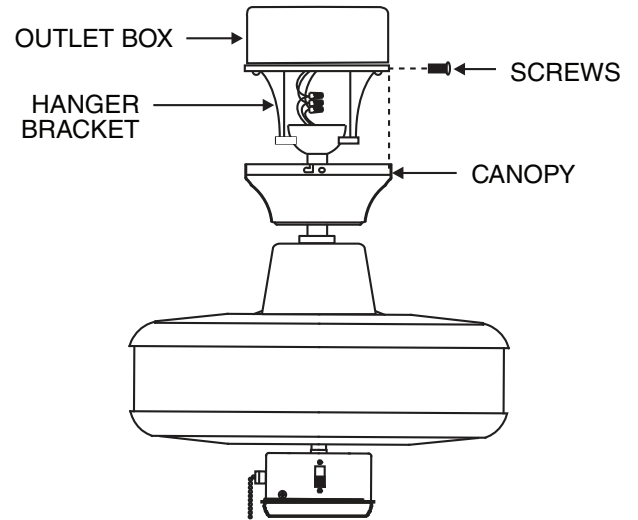

FIGURE 11
1. Slide canopy up to the ceiling as shown in Figure 11. Make sure you place the wires safely into the outlet box.